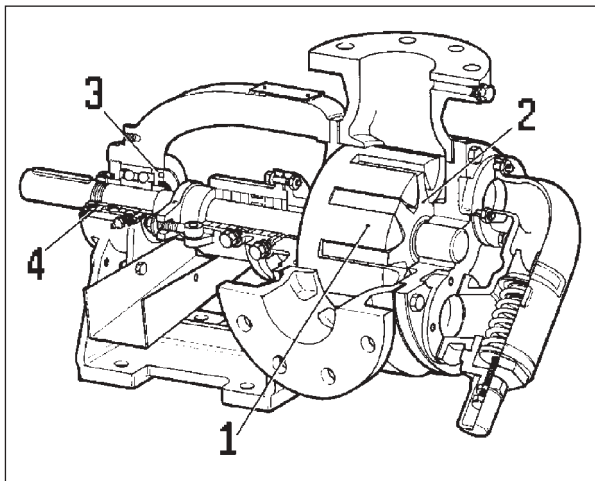

fig. 1
V series pumps are rotary positive displacement pumps. The rotation of two gears, one inside the other (items 1 and 2 in figure 1) create spaces which are subsequently closed when the gears mesh.